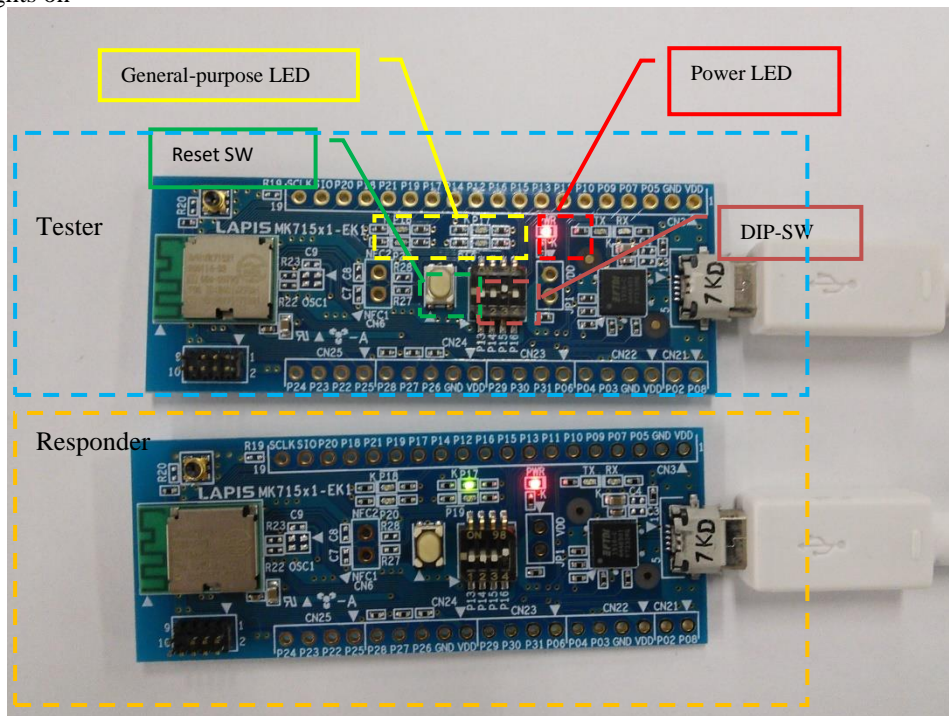

Fig. 2-2 Throughput measurement environment
- (2) Tester side: Connect MK71521EK1 to PC with USB cable. (Fig. 2-2)
- (6) Responder side: Connect MK71521EK1 to PC with USB cable. (Fig. 2-2)